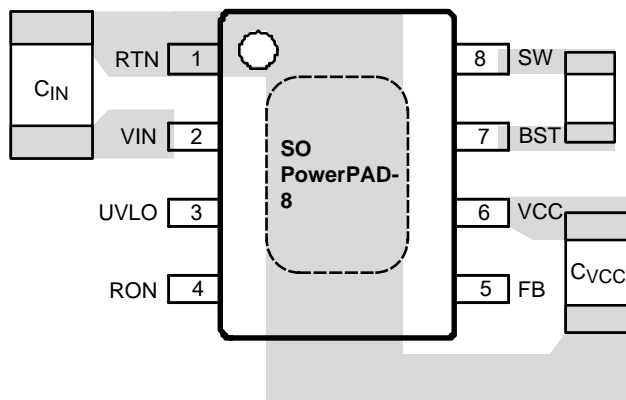

Figure 24. Placement of Bypass Capacitors
1. C_{IN} : The loop consisting of input capacitor (C_{IN}), V_{IN} pin, and RTN pin carries switching currents. Therefore, the input capacitor should be placed close to the IC, directly across V_{IN} and RTN pins and the connections to these two pins should be direct to minimize the loop area. In general it is not possible to accommodate all of input capacitance near the IC. A good practice is to use a 0.1- μF or 0.47- μF capacitor directly across the V_{IN} and RTN pins close to the IC, and the remaining bulk capacitor as close as possible (see Figure 24).
2. C_{VCC} and C_{BST} : The V_{CC} and bootstrap (BST) bypass capacitors supply switching currents to the high and low side gate drivers. These two capacitors should also be placed as close to the IC as possible, and the connecting trace length and loop area should be minimized (see Figure 24).